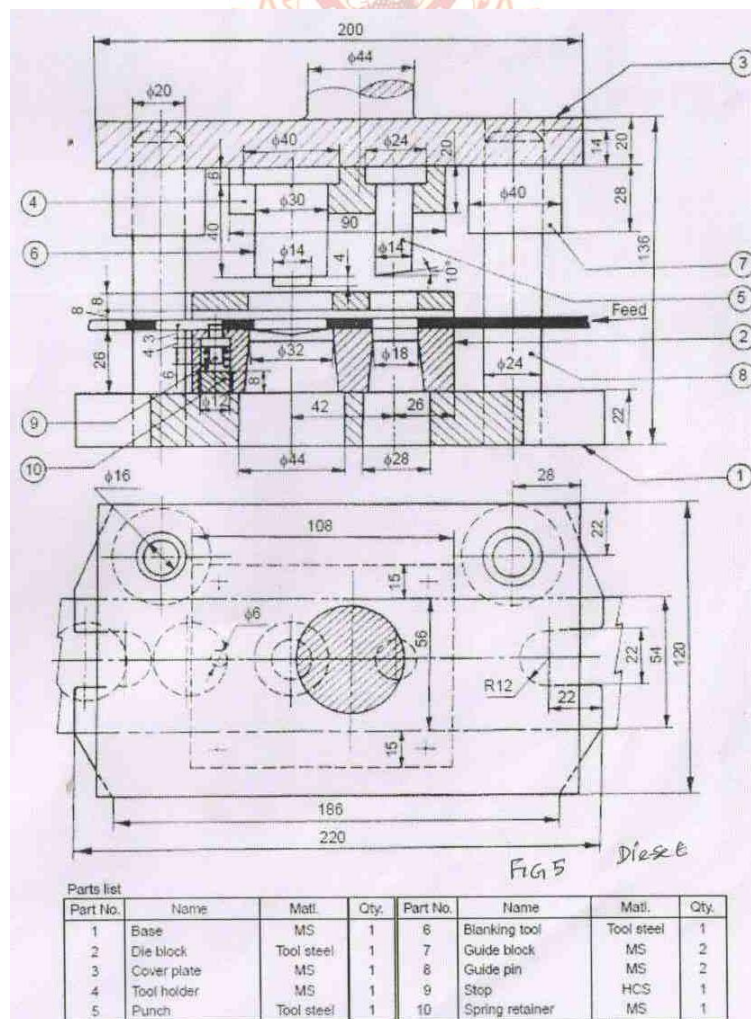

Figure 6 Component details of die set
2. Draw the detailed drawing including the dimensional tolerance, geometrical tolerance and surface finish for blanking die and punch, piercing die and punch, pillars for the die set given in the figure 6.